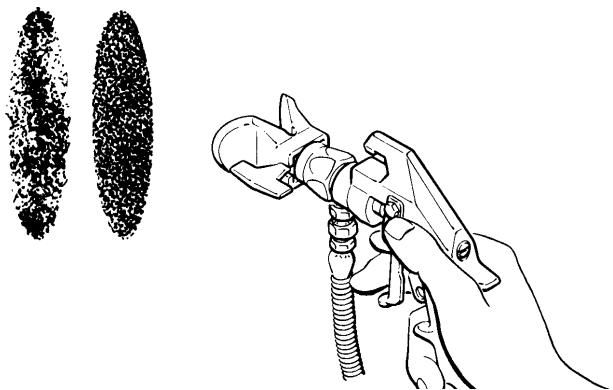

Fig 3
Adjust the pressure control knob (D) so the fluid pressure completely atomizes the spray from the gun. Always use the lowest possible pressure to get the desired results. See Fig. 3.